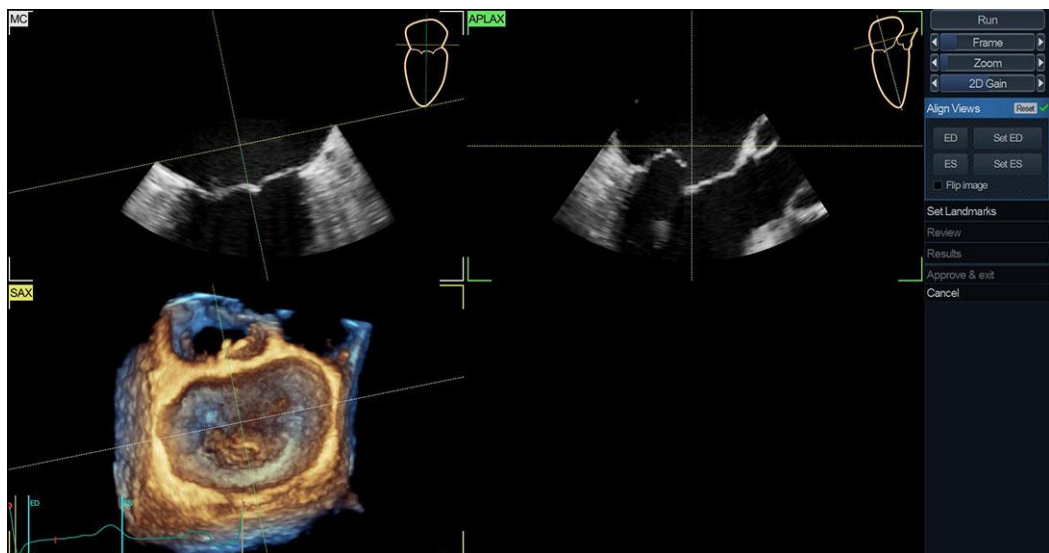

Figure 8-59. Align Views screen
*Align Views* stage presents two long axis slices (rotated 90 degrees with respect to each other) and short axis 3D view at the annulus plane (Figure 8-59).
The alignment of the data must be performed in order to identify standard views: Mitral-Commissural view (MC, top left), Antero-Posterior Long Axis view (APLAX, top right) and short axis 3D view aligned with MV annulus (Figure 8-59).